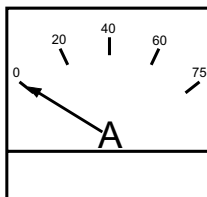

Figure 59. Ammeter (No Load)
15. The ammeter (Figure 59) will indicate zero amps with no load applied. When a load is applied, this meter will indicate the amount of current that the load is drawing from the generator's alternator.